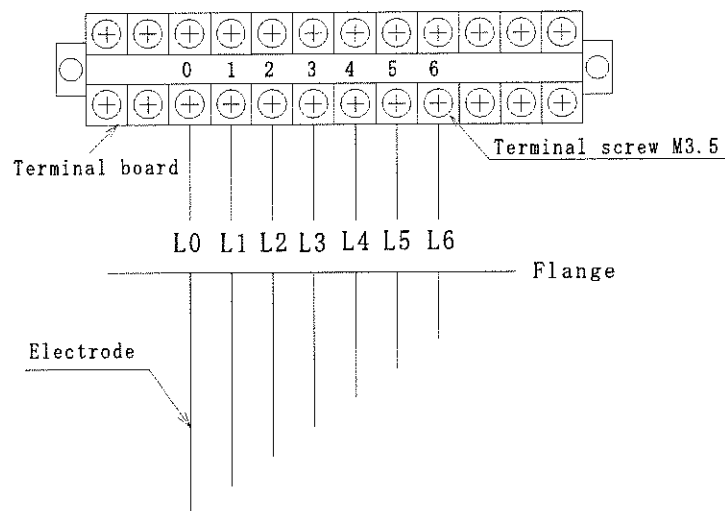

Fig. 13
- (1) Remove the terminal box cover.
- (2) Bring the cable into the terminal box.
- (3) Connect the cable to the terminals as shown Fig. 13.
- (4) Make sure that there are no mis wiring.
- (5) Reinstall the terminal box cover in accordance with protection category IP45 (FE2 series) or IP43 (FE7, FE8 series).
- (6) The cable inlet must be protected the sensor from rain splashing water and so on.